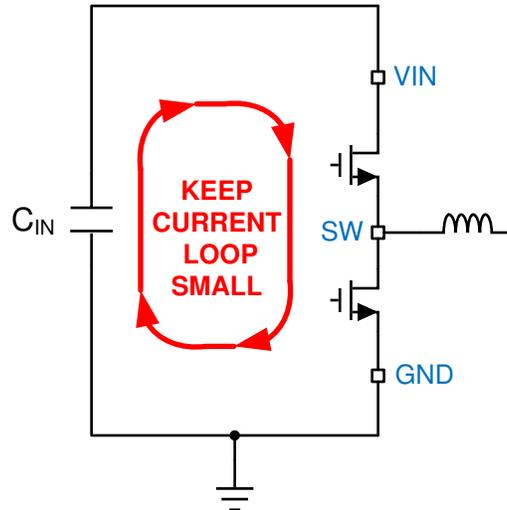
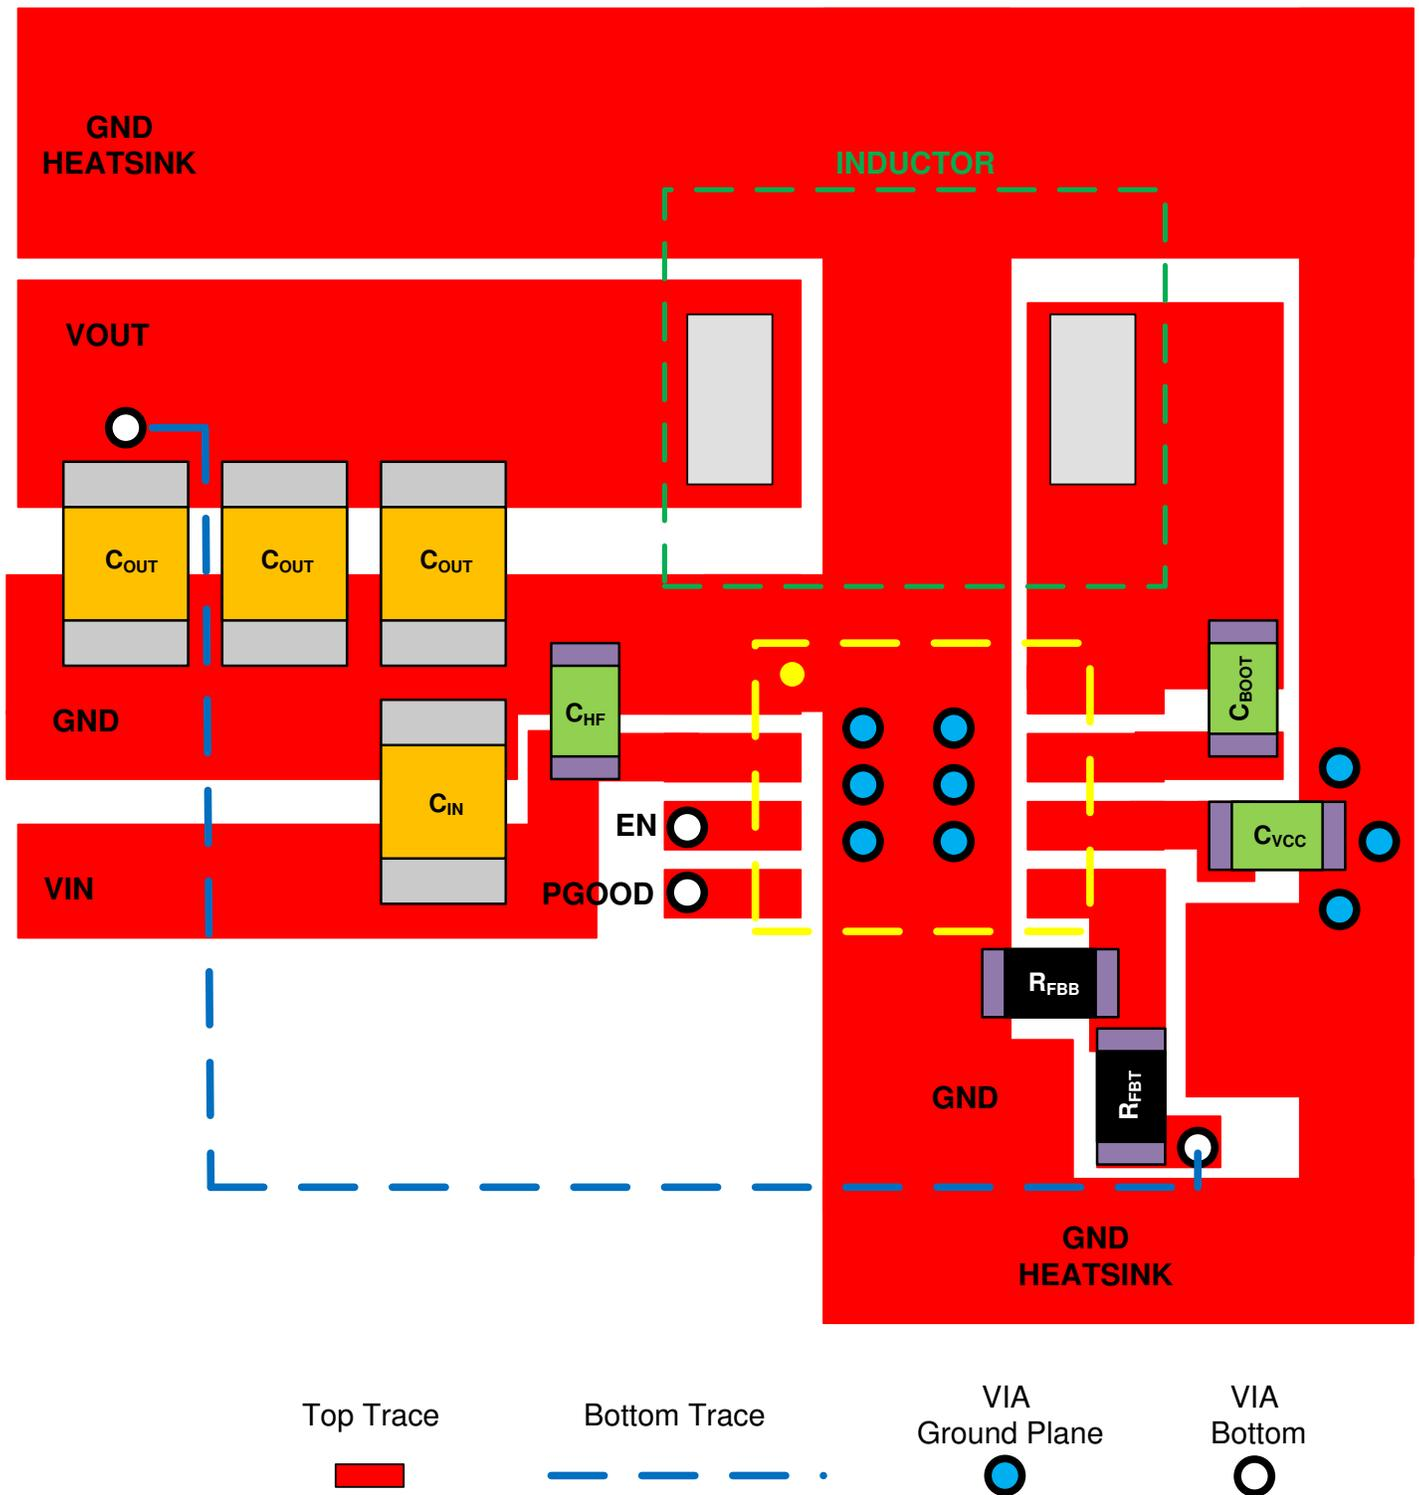
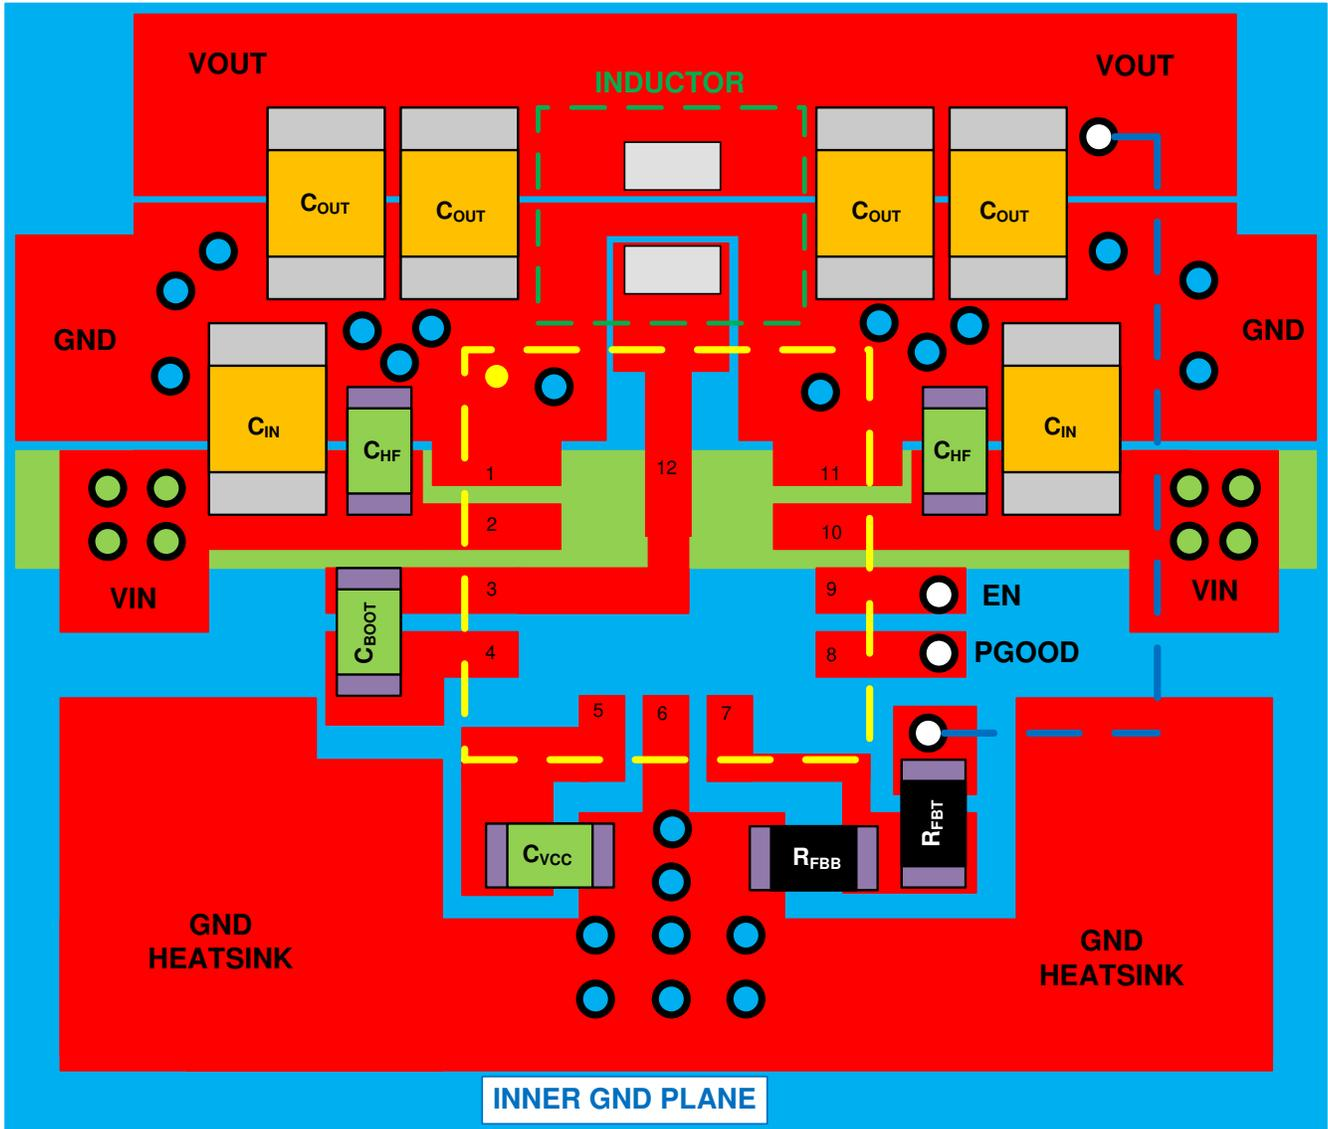

图 10-1. Current Loops with Fast Edges
图 10-2. Example Layout for HSOIC (DDA) Package
图 10-3. Example Layout for VQFN Package
The PCB layout of any DC/DC converter is critical to the optimal performance of the design. Bad PCB layout can disrupt the operation of an otherwise good schematic design. Even if the converter regulates correctly, bad PCB layout can mean the difference between a robust design and one that cannot be mass produced. Furthermore, the EMI performance of the regulator is dependent on the PCB layout, to a great extent. In a buck converter, the most critical PCB feature is the loop formed by the input capacitor or input capacitors, and power ground, as shown in 图 10-1. This loop carries large transient currents that can cause large transient voltages when reacting with the trace inductance. These unwanted transient voltages will disrupt the proper operation of the converter. Because of this, the traces in this loop must be wide and short, and the loop area as small as possible to reduce the parasitic inductance. 图 10-2 and 图 10-3 show recommended layouts for the critical components of the LMR33620.
1. **Place the input capacitor or capacitors as close as possible to the VIN and GND terminals.** VIN and GND pins are adjacent, simplifying the input capacitor placement. With the VQFN package there are two VIN/PGND pairs on either side of the package. This provides for a symmetrical layout and helps minimize switching noise and EMI generation. A wide VIN plane must be used on a lower layer to connect both of the VIN pairs together to the input supply; see 图 10-3.